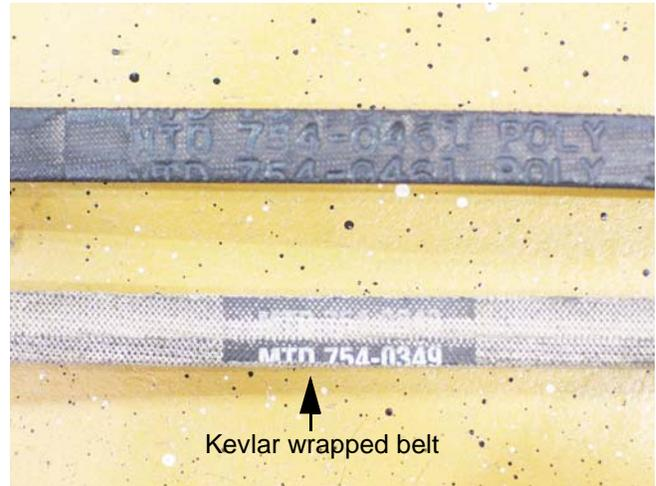

Figure 23.10
23.10. The belt for the G.T. models of the 1500 Series line is Kevlar wrapped. Substituting the poly-wrapped belt used on the L.T. models is not recommended, but the Kevlar belt is an acceptable premium upgrade for the L.T. tractors. See Figure 23.10.